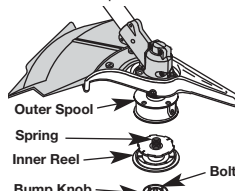

Fig. 25
- Hold the outer spool with one hand and unscrew the Bump Knob clockwise (Fig. 25). Inspect the bolt inside the bump knob to make sure it moves freely. Replace the bump knob if damaged.
- Remove the inner reel from the outer spool (Fig. 25).
- Remove spring from the inner reel (Fig. 25).
- Hold the outer spool with one hand and unscrew the bump knob clockwise. Inspect the bolt inside the bump knob to make sure it moves freely (Fig. 25). Replace the bump knob if damaged.
- Remove the old inner reel from the outer spool (Fig. 25).
- Remove the spring from the old inner reel (Fig. 25).